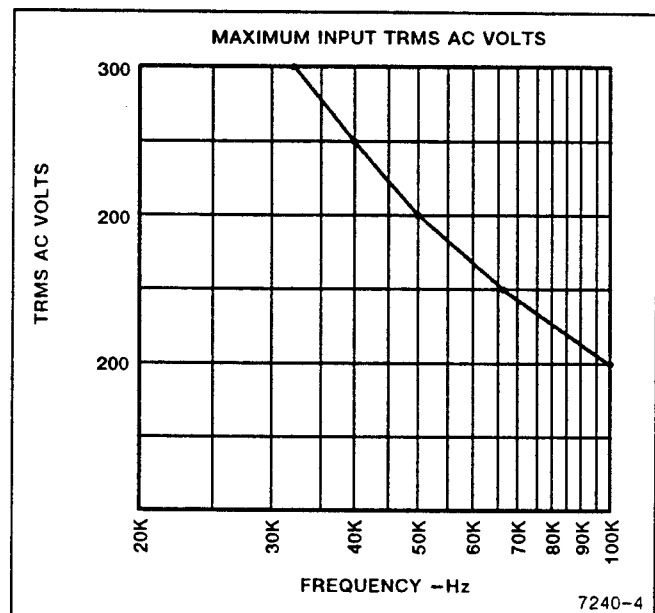

Fig. 2-10. Maximum TRMS AC Volts Versus Frequency.
3. Connect the signal to be measured to the selected input terminals as shown in Figure 2-10.